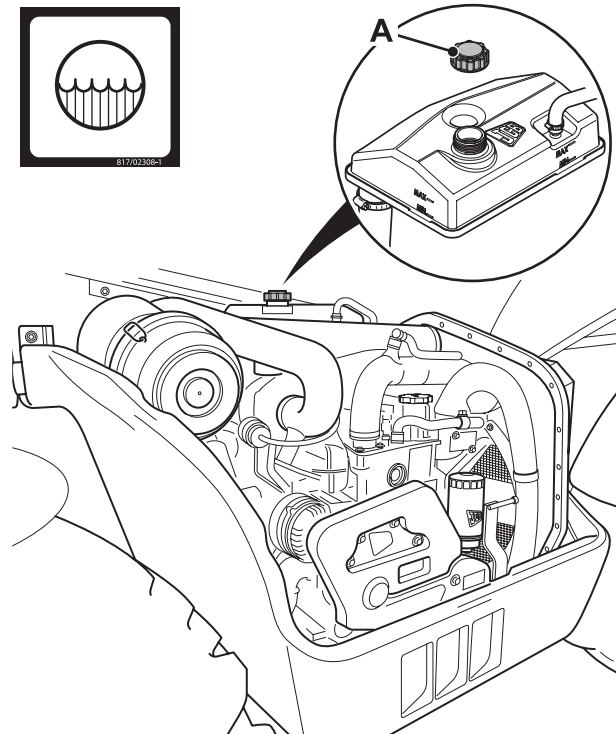

Fig 34.
⇒ Fig 34. (□ 3-71)
- 3 Carefully loosen cap **A** on the coolant reservoir. ⇒ Fig 34. (□ 3-71). Let any pressure escape before removing the cap.